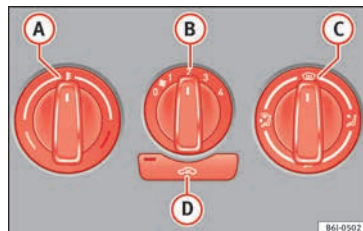

Fig. 165 Heating controls on the dash panel.
- Use turn controls ①, ② and ③ » Fig. 165 to adjust the temperature, blower speed and air distribution.
- Press the ④ button to switch air recirculation mode on or off. When the function is activated, a warning light on the button is turned on.
- Press button **(D)** » Fig. 165 and the lamp in the button will illuminate.
If the rotary switch **(C)** » Fig. 165 is in the thaw position, the recirculation flap will always be open and air will always enter from the outside.
- Turn the temperature selector » Fig. 165 **(A)** anticlockwise.
- Turn the temperature selector » Fig. 165 **(A)** clockwise to select the desired temperature.
- Turn the temperature selector » Fig. 165 **(A)** clockwise to reach the maximum temperature.
- Turn the temperature selector **»» Fig. 165 (A)** to the heating area.